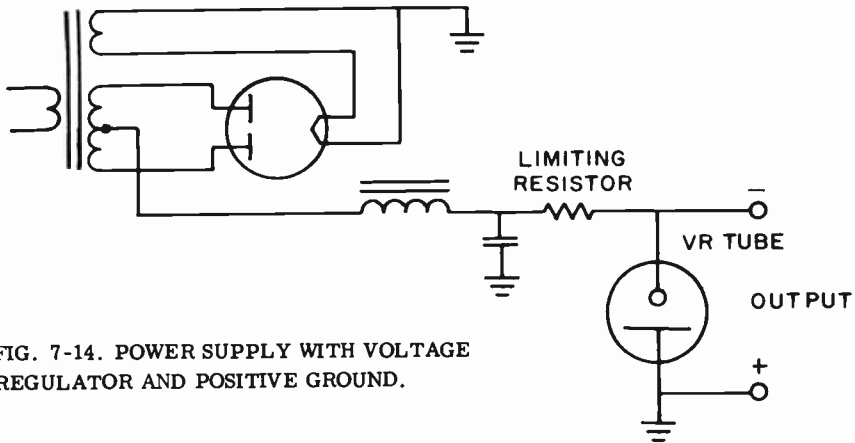

FIG. 7-14. POWER SUPPLY WITH VOLTAGE REGULATOR AND POSITIVE GROUND.
**3 VOLTAGE REGULATOR TUBES.** Fig. 7-14 is a diagram of a power supply with a voltage regulator tube to stabilize the output voltage. This supply is not conventional. The rectifier filament, which is normally positive with respect to ground, is now grounded. The center tap, which is normally grounded, is not grounded. It now has the filter in its line. The filter is a single section type. This power supply is used where a negative voltage with